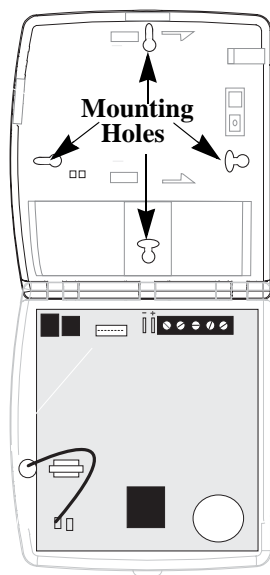

Figure 3. Panel Mounting Hole Locations
3. Refer to Figure 3 for mounting hole locations.
The panel has 5 screw terminals located on the upper-right corner of the circuit board (see Figure 3) for connecting AC power, sirens and/or hardwire detectors.